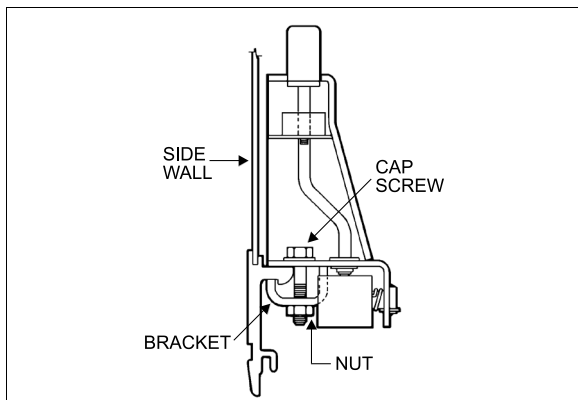
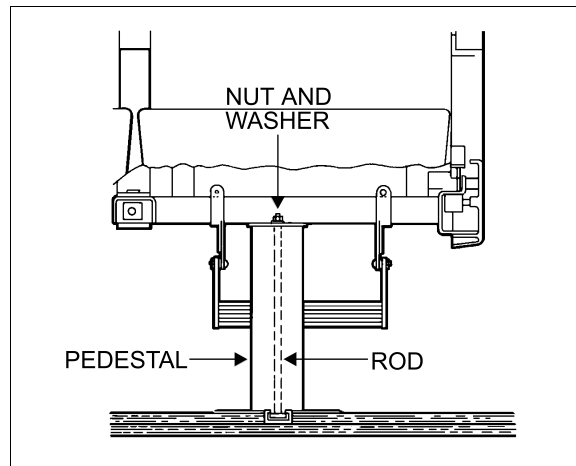

FIGURE 30: SIDE WALL MOUNTING
FIGURE 31: SEAT PEDESTAL ASSEMBLY
4. Remove 2 cap screws, nuts, and washers holding seat frame to side wall and retain the 2 holding brackets. See Figure 30 and Figure 31.